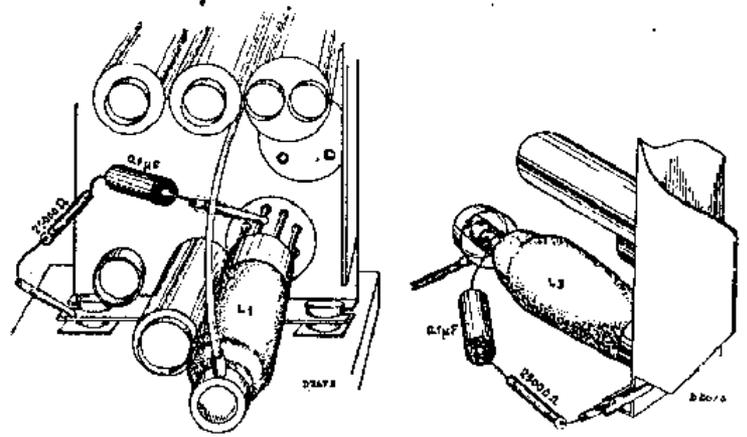

Fig. 3.
6. De-tune the first I.F. circuit by connecting 25,000 ohms and 0.1  $\mu\text{F}$  between the anode of L1 and chassis. (Fig. 3.)
8. Remove condenser from first I.F. circuit and de-tune the second I.F. circuit by means of 25,000 ohms and 0.1  $\mu\text{F}$  connected between control grid of L3 and chassis. (Fig. 3.)
3. Detune first I.F. circuit by connecting 25,000 ohms + 0.1  $\mu\text{F}$  between anode L1 and chassis. (Fig. 3.)
- III. Apply modulated I.F. signal (via 32,000  $\mu\mu\text{F}$ ) (Fig. 3) to grid 1 of L1.